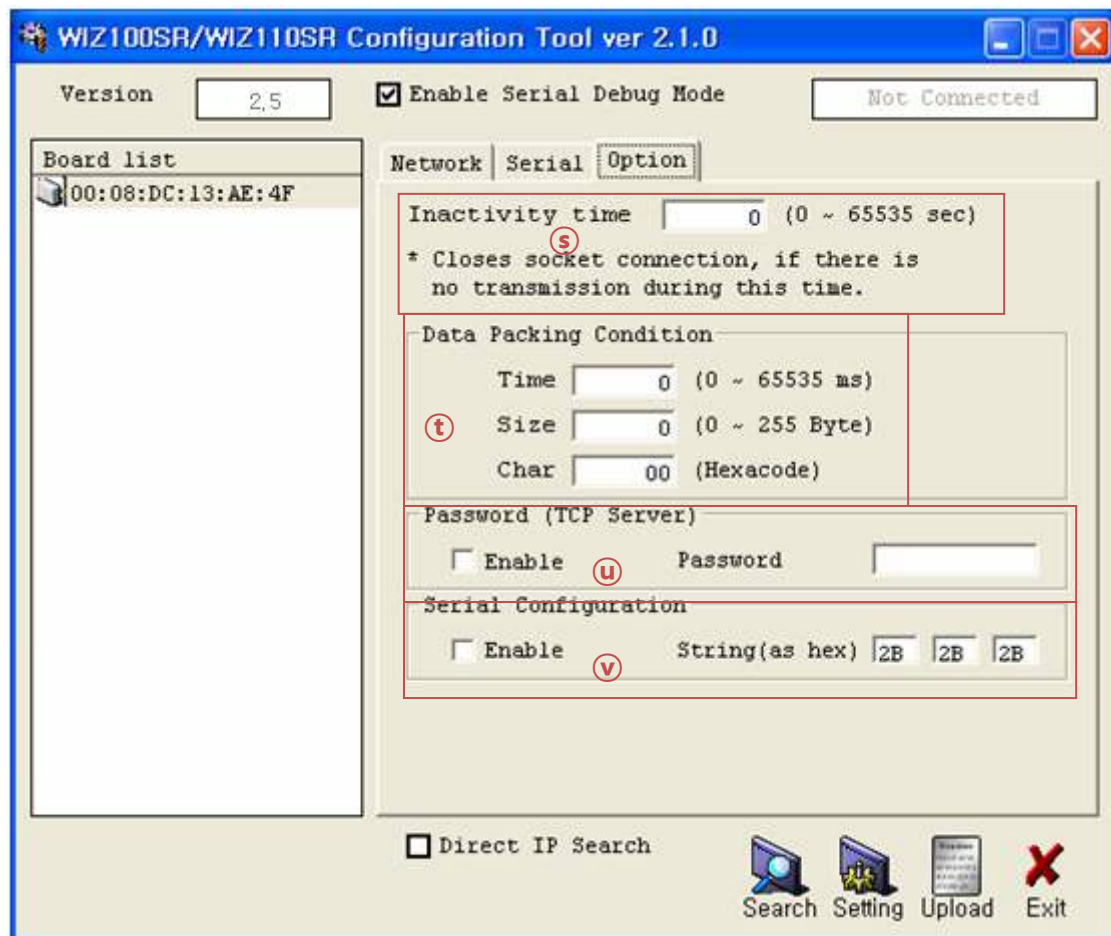

Figure 10. Configuration Tool (Option Config.)
3. As shown in Figure 10, select Option tab and check 'Enable' combo box of "Password" menu.
④Serial Configuration:
- ① Select a module shown in "Board list", and click "Upload" button.
- Before uploading through Ethernet, you should set the network information of WIZ100SR first by Configuration Tool program as shown above Fig 10. By using Ping test, you can check if network is correctly configured.
- ② When the window as shown below Figure is displayed, select file for upload and click "Open" button.